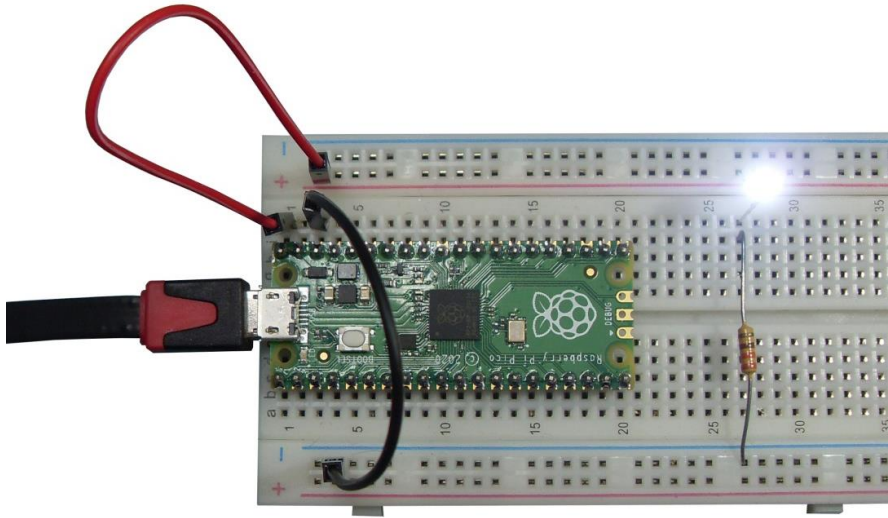

Figure 2. Lighting a white LED.
- 1). Plug your Pi Pico into the breadboard so that the USB connector is in the leftmost position as shown in Figure 2.
- 4). Connect a 330 Ohm resistor (330R) between the lower blue rail and the upper bank of vertical connections as shown in Figure 2. You will need to bend 10mm of the wire of the resistor down at the end to poke into the holes in the breadboard.
- 2). Check the wiring is as shown in Figure 2. Page 49 of The Book gives a good explanation of how the breadboard is wired internally.